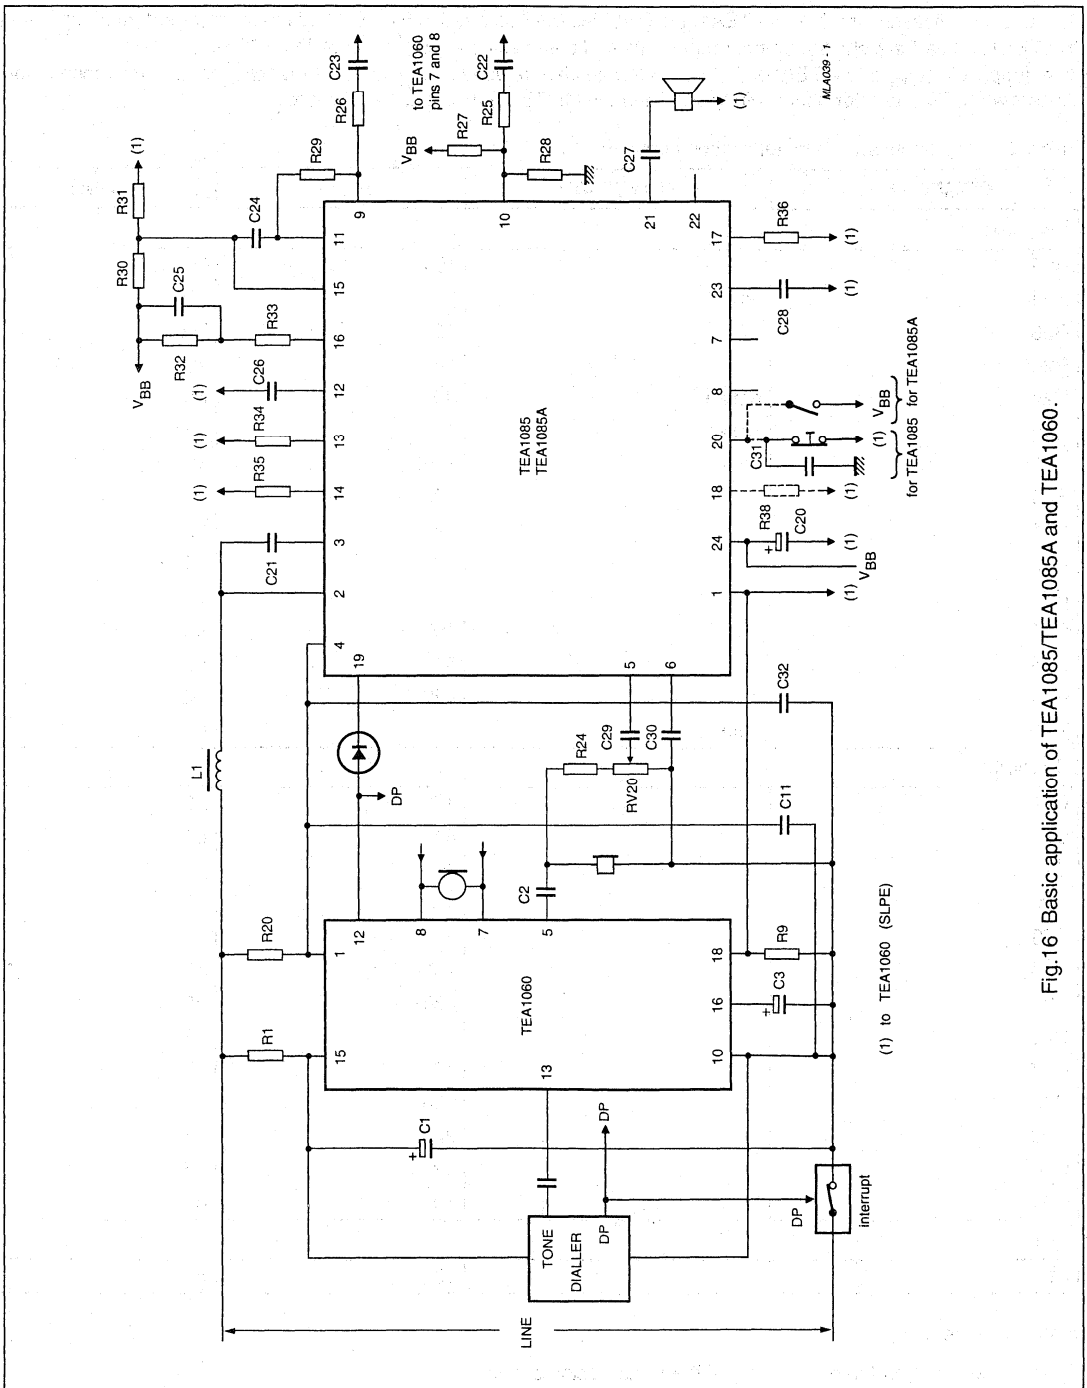

Fig.16 Basic application of TEA1085/TEA1085A and TEA1060.
The basic application circuit of the TEA1085/TEA1085A is illustrated in Fig.16. Only the most important components of the TEA1060 part are shown, other components and their values are given in the TEA1060 Data sheet.
**Table 3** Component values in application circuit Fig.16